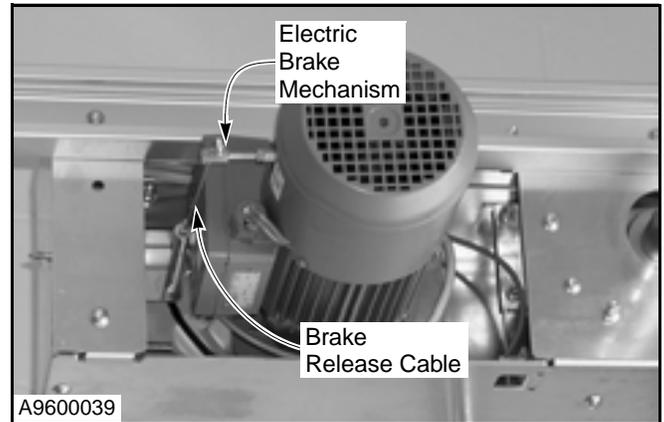
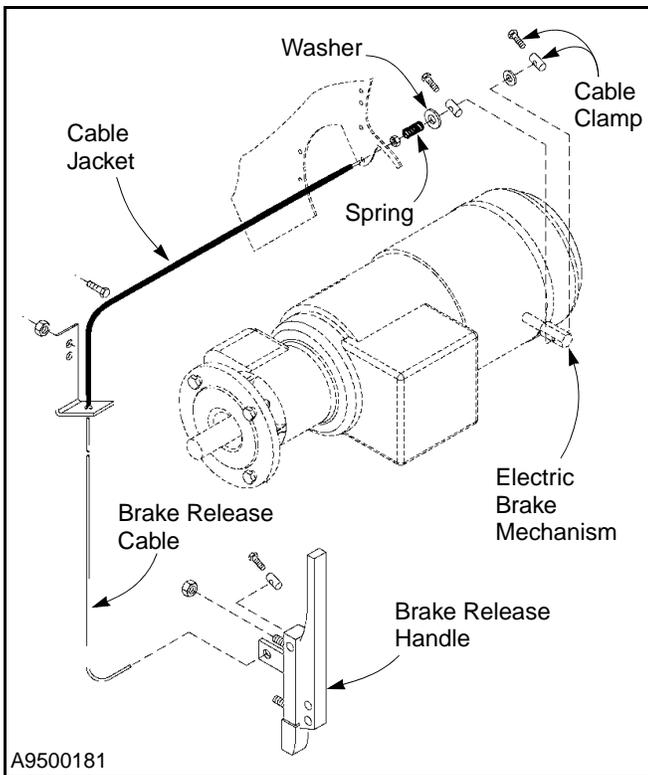

Figure 49
Figure 51
3. Disconnect the old brake release cable from the electric brake mechanism by removing the cable clamps, washers, and spring. Save all hardware. (See Figure 49 and Figure 51.)
5. Install the new brake release cable, taking the same path as the old cable. Be sure to feed the cable through the cable jacket that runs between the side column and the motor gearbox. (See Figure 51.)